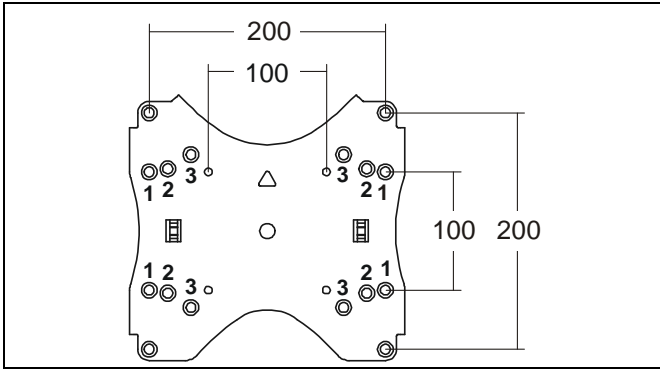

Figure 10
2. Determine hole configuration to be used on faceplate. (See Figure 10)